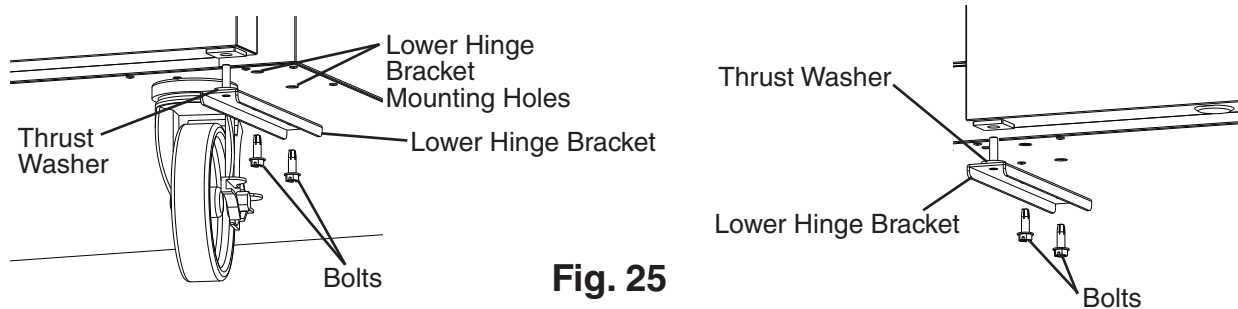

Fig. 25
- 12) Remove the lower hinge bracket. See Fig. 25. Be sure to leave the thrust washer in place.